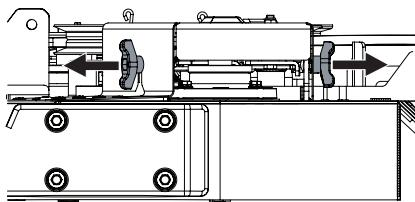

Figure 48
- Remove the wing knobs securing the belt covers to the deck (Figure 48).